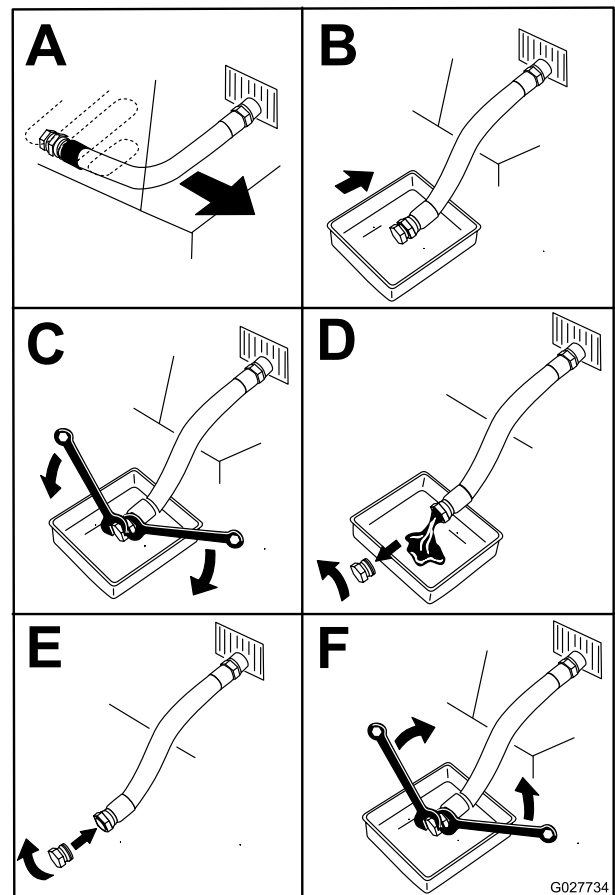

Figure 49
4. Drain the engine oil (Figure 49).